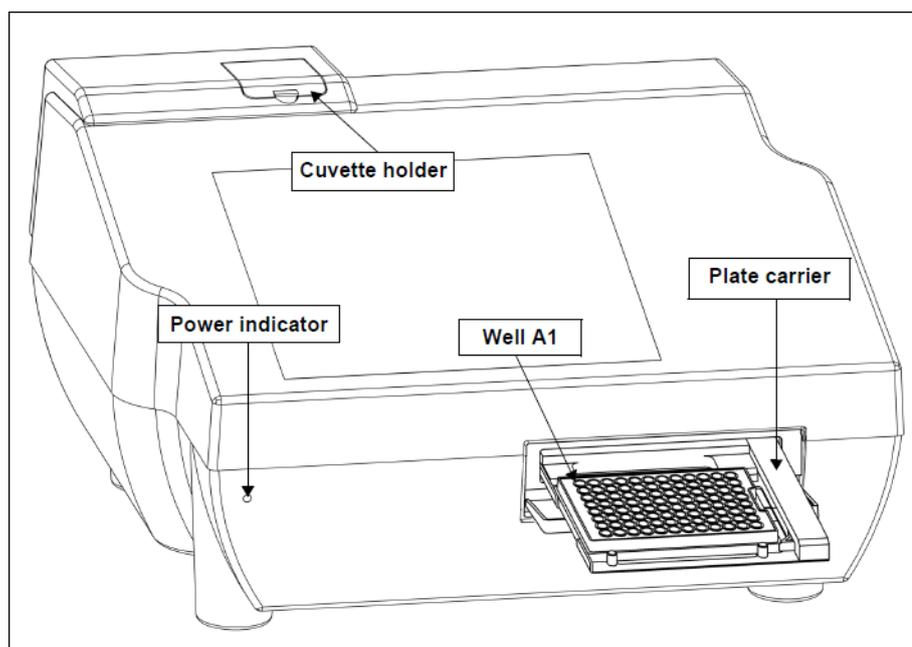

Figure 1-4. Zenyth 200rt with plate carrier open
2. Place the microplate on the plate carrier with well A1 oriented so that it is in the back left corner of the plate carrier (Figure 1-4).
Cuvettes to be read are loaded manually into the cuvette holder near the back left corner of the instrument (Figure 1-4). When performing measurements, cuvettes are not loaded into the
1. Open the door to the cuvette holder by hand (Figure 1-4).